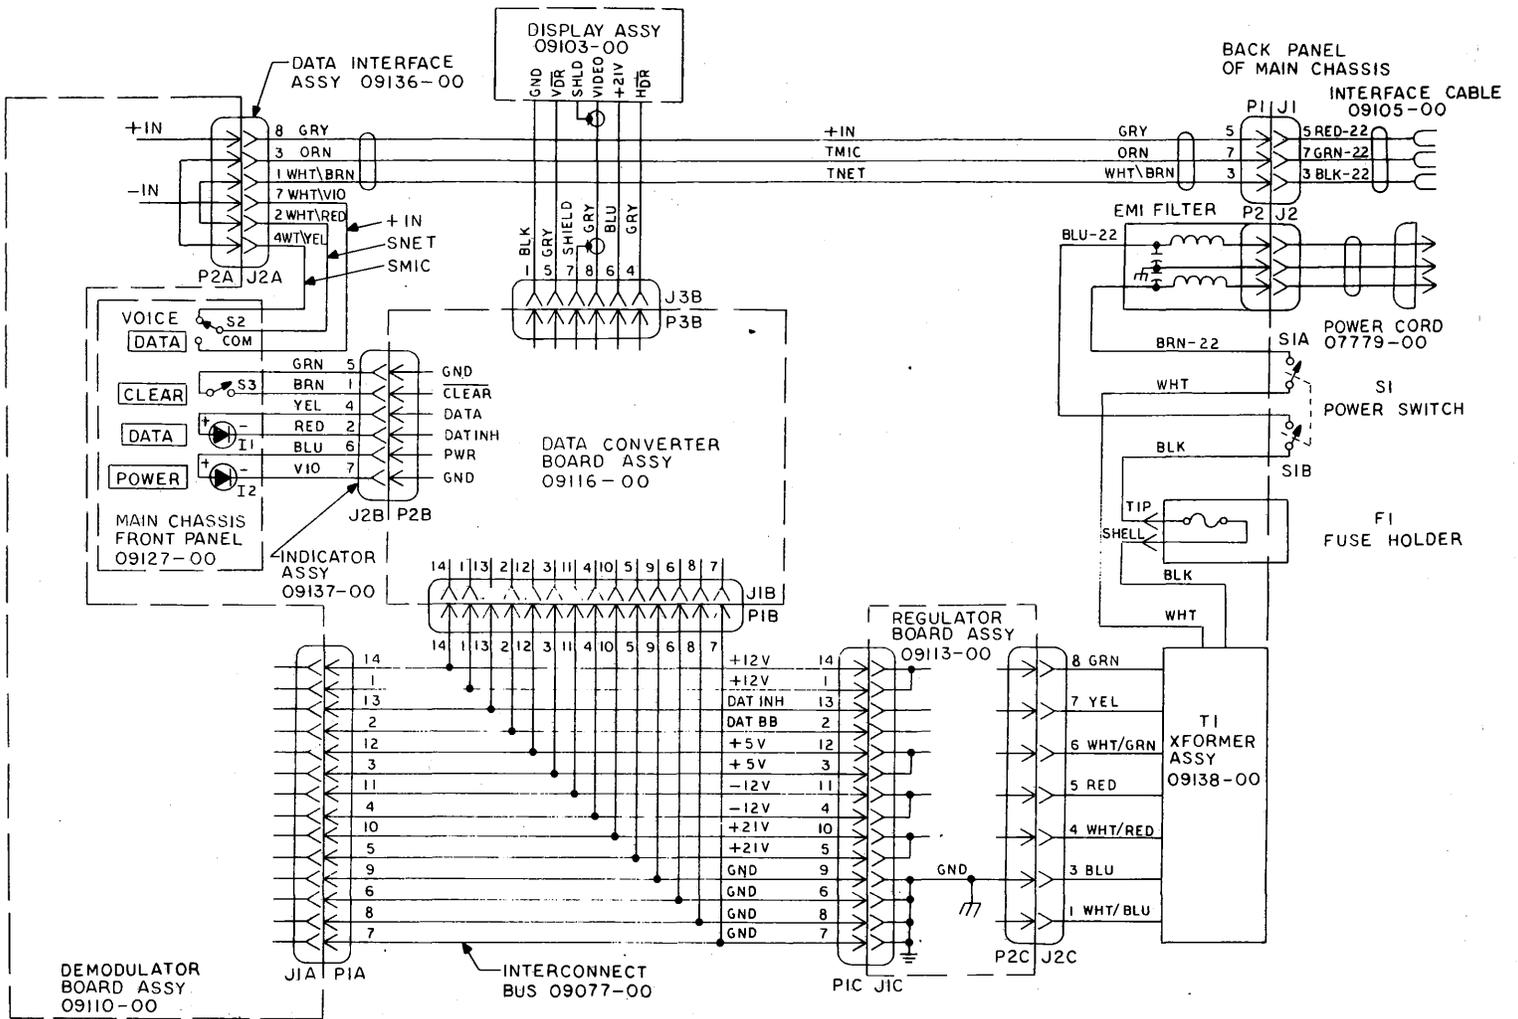

Figure 3-2. Terminal Interconnect Wiring Diagram
3.07 Figure 3-2 is an interconnect diagram for all of the terminal subassemblies discussed.